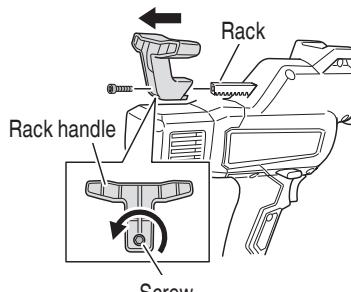

Fig. 11
(2) Loosen the screw at the rear of the rack handle and remove the rack handle from the rack. (Fig. 11)